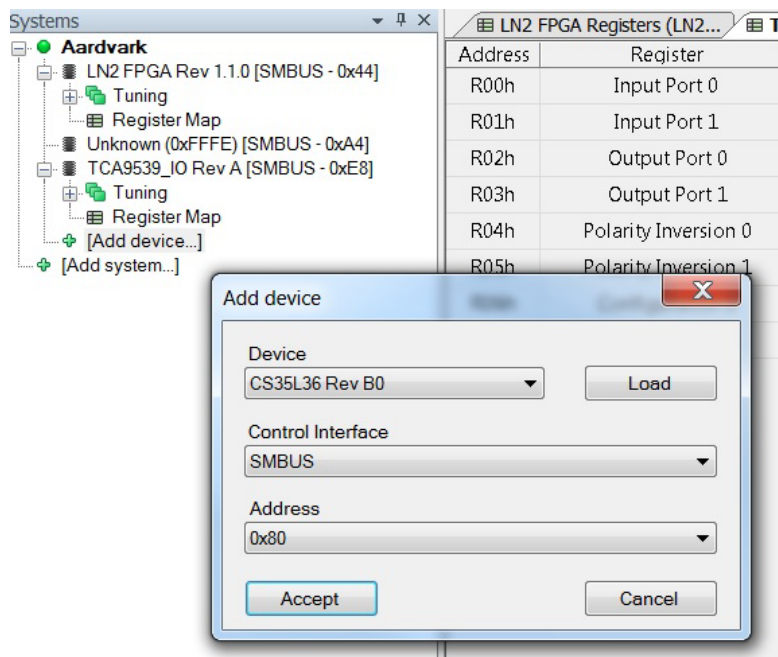

Figure 3-3. Adding CS35L36 Devices
4. To add CS35L36 devices click on the "Add device" tab, select CS35L36 Rev B0 from the pull-down menu, and click the "Accept" button (Fig. 3-3). The first added CS35L36 device is assigned I2C address 0x80 by default (left amplifier on the daughter card). The second added CS35L36 is assigned address 0x82 (right amplifier on the daughter card).